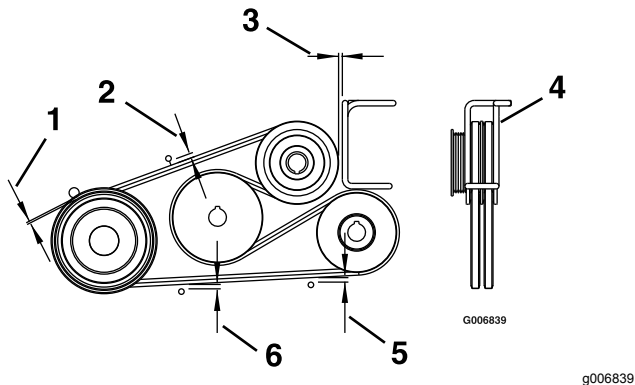

Figure 62
4. Adjust the belt guides as shown in Figure 62.